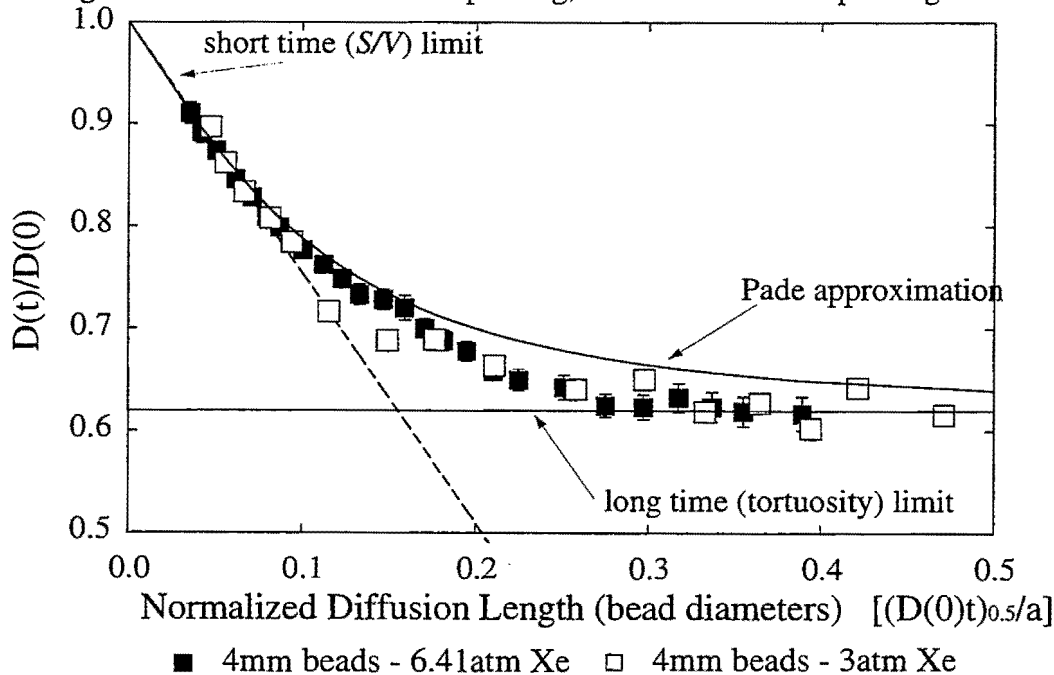

Figure 1:
The results from a couple of the bead packs are shown in Figs 1 - 3. In addition, we are now using the Pade approximation to interpolate between the long and short-time $D(t)$ limits, and so give a theoretical prediction for medium t data - a method that has been used successfully in the past for the water $D(t)$ experiments (3). In all plots, the points in white are Xe $D(t)$ when the samples were pressurized to 3 atm Xe, and was the data reported previously (1). The new data is in black, taken at 6 atm Xe pressure. The deviation at short diffusion times from the predicted S/V limit is very obvious in the 3 atm data. By increasing the Xe gas pressure, and so reducing $D(0)$ (the free gas diffusion coefficient), the deviation from the predicted S/V limit is much reduced in the smaller beads. In fact, the pressure increase restores the data to the S/V limit in the 2 mm beads, and almost achieves the same result in 1 mm beads. Limitations to gas pressures in standard lab glassware are the only reason the deviation cannot fully be eliminated. The reduction in the deviation is even starker in 0.5 mm beads, however the 6 atm $D(t)$ from that sample is still being processed.